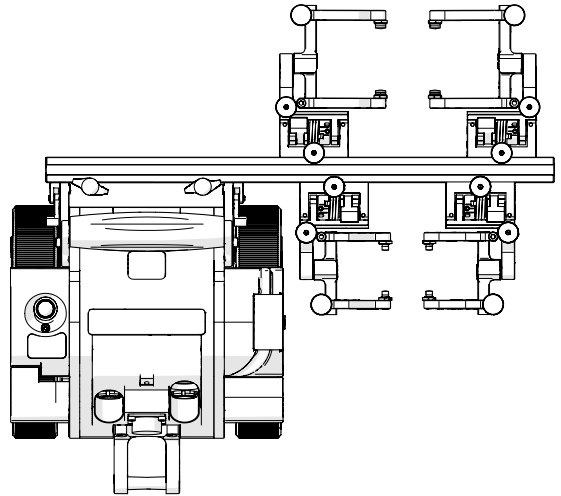

Fig. 191 - Assemble appropriate configuration
1. Assemble the appropriate configuration to the frame bar (see “Configurations” on page 30) and mount to the crawler (Fig. 191).